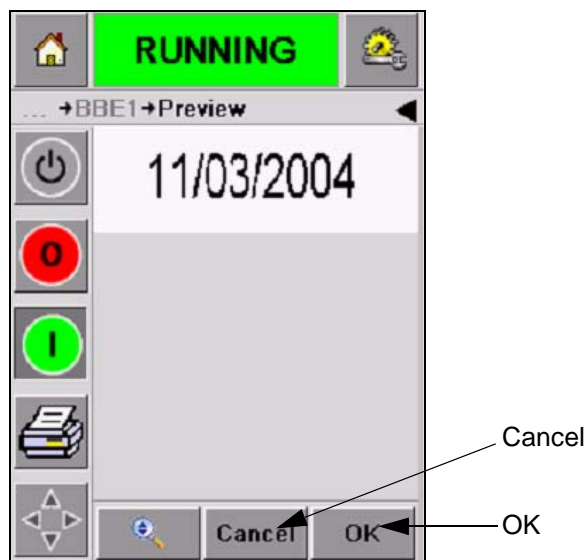

Figure 5-6: Job Preview
If you must cancel the process of job selection, touch the *Cancel* button or the *Home* button (refer to Figure 5-6 on page 5-5).
- 4 When you select the required job, the CLARiTY[®] displays a print preview of the selected job (Figure 5-6).
- 5 Touch the OK icon after the information displayed is correct (Figure 5-6). The printer starts printing the job.